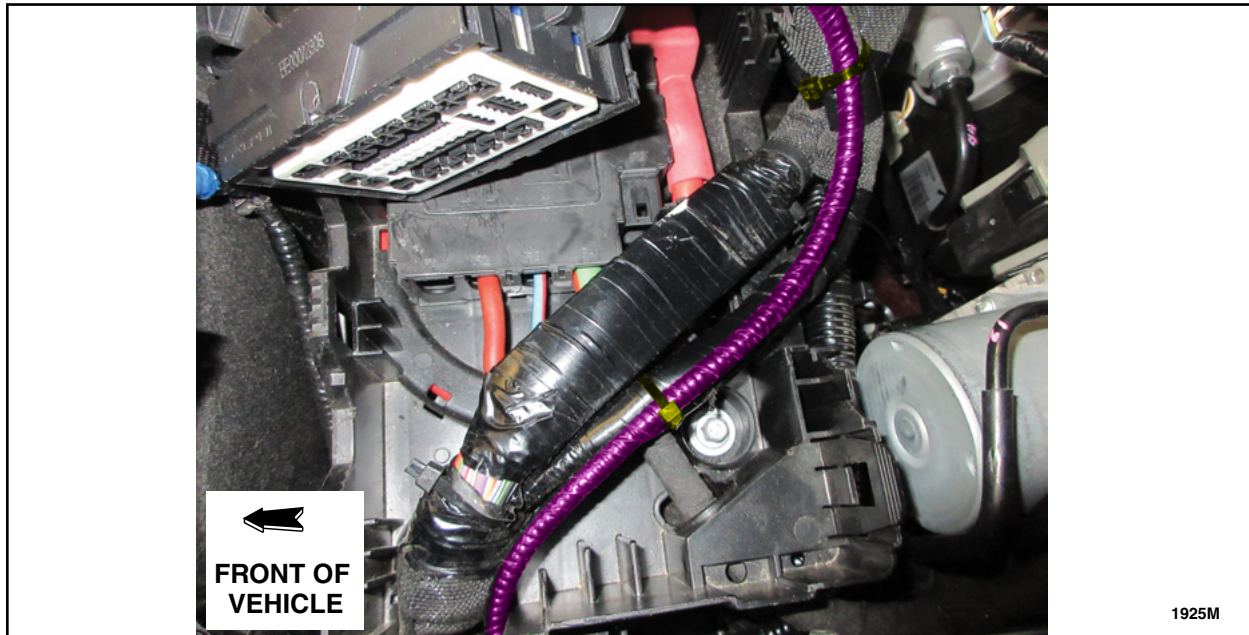

FIGURE 13
15. Route the underhood harness inside the battery junction box and tie strap. See Figure 13.